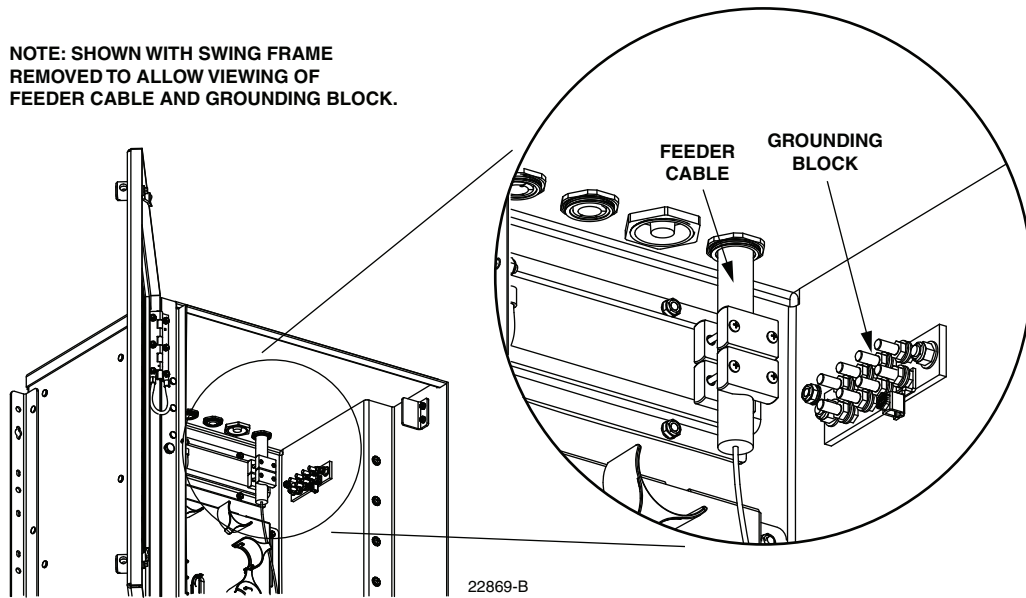

Figure 18. Location of Cable Grounding Block
1. Route the cable grounding wire to the grounding block as shown in Figure 18.